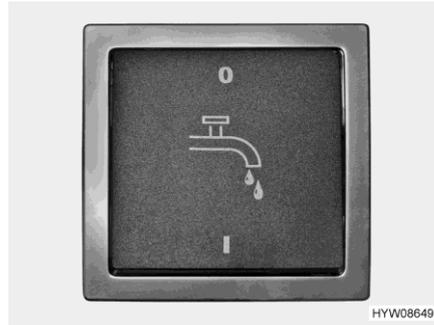

Fig. 148 Switch (water pump)
- ▷ Before the water fittings can be used, the 12 V power supply and the water pump must be switched on at the panel and on the switch (Fig. 148) respectively. Otherwise the water pump will not work.